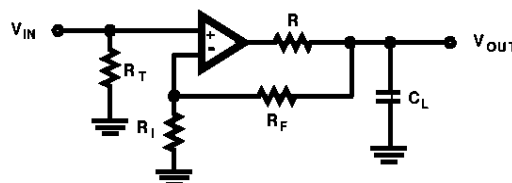

FIGURE 36. PLACEMENT OF THE OUTPUT ISOLATION RESISTOR, R
Capacitive loads will degrade the amplifier's phase margin resulting in frequency response peaking and possible oscillations. In most cases the oscillation can be avoided by placing an isolation resistor (R) in series with the output as shown in Figure 36.